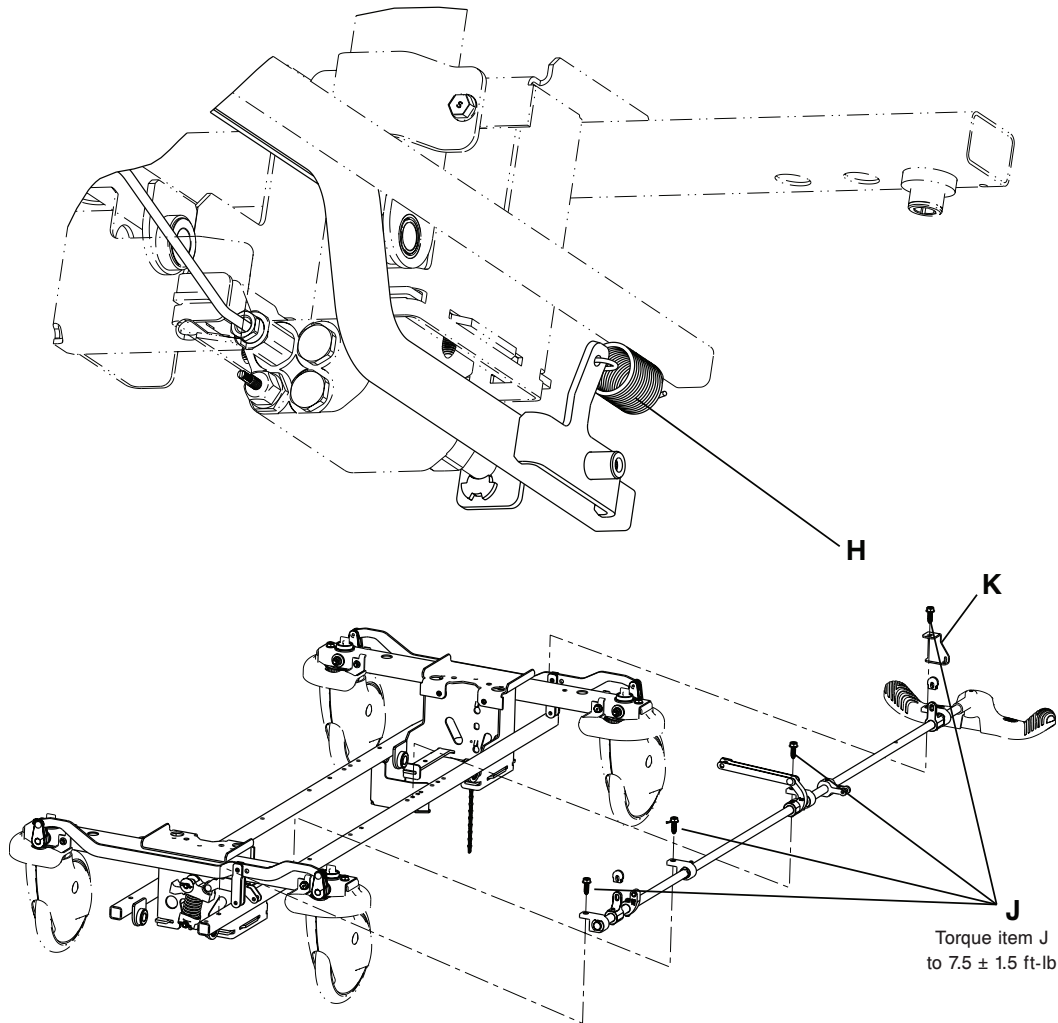

Figure 6 – Replace the brake rod - foot end
6. Using needle nose pliers, remove the rue ring cotter (C) and clevis pin (D) that secure the brake cam and link assembly to the brake rod assembly. Save the rue ring cotter and clevis pin.
7. At the foot end of the product, use needle nose pliers to remove the rue ring cotter (C) and clevis pin (D) that secure the foot end brake link assembly to the brake activation crank. Remove the brake rod crank cap. Save the rue ring cotter, clevis pin, and brake rod crank cap.
9. Using needle nose pliers, remove the rue ring cotter (E) and clevis pin (F) that secure the side control brake assembly to the side control brake rod link. Save the rue ring cotter and clevis pin.
10. Using a 1/2" socket and a 3/8" drive ratchet, remove the hex washer head screw (G) and sleeve bearing that secure the fifth wheel drive link assembly to the brake rod assembly. Save the screw and sleeve bearing. When you reinstall the screw, use a 3/8" drive torque wrench to torque the screw to 7.5 ± 1.5 ft-lb.
11. At the foot end of the product, use needle nose pliers to disconnect the return spring (H).
12. Using a 1/2" socket and a 3/8" drive ratchet, remove the four hex washer head screws (J) that secure the brake rod supports to the brake rod assembly. Remove the return spring hook (K) (Figure 6). Save the screws and the return spring hook. When you reinstall the hex washer head screws, use a 3/8" drive torque wrench to torque the screws to 7.5 ± 1.5 ft-lb.